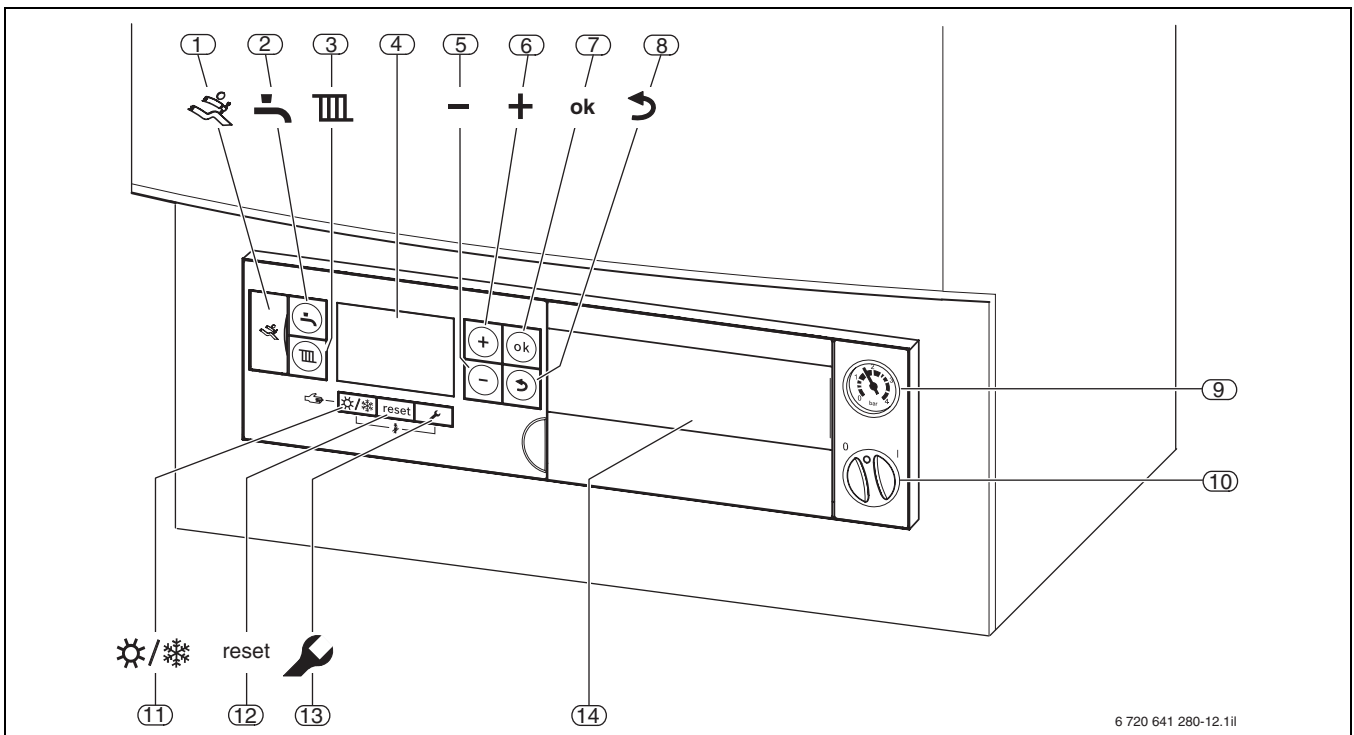

Fig. 39 Display, indicators and controls on the Logamatic BC25 base controller
- ON/OFF switch for starting and shutting down the boiler and all connected modules (→ Fig. 39, pos. 11)
- “Summer/Winter mode” changeover key (→ Fig. 39, pos. 12)